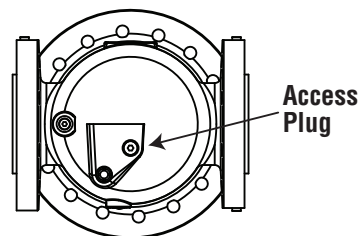

Figure 4 - Remove the access plug to check impeller rotation.
5. After the meter is installed, remove the socket head plug in the timing gear end of the meter (as shown in Figure 4) using a hex wrench. Insert a Hex wrench into the timing gear clamp on the end of the impeller shaft and slowly turn the impellers clockwise, checking for free rotation. If binding is present, do not attempt to disengage the impellers. Remove the meter from the set and clear all obstructions or piping strain prior to reinstallation. Replace the plug after verifying free impeller rotation and torque to 9.5 to 10.5 ft. lbs (12,9-14,2 Newton-Meters).